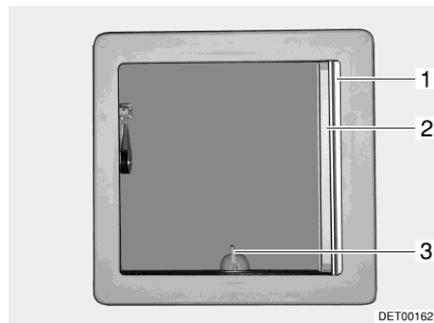
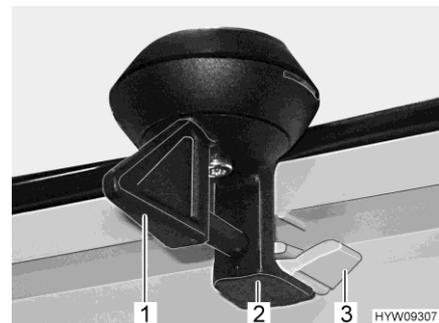

Fig. 69 Hinged skylight
Fig. 70 Lock (hinged skylight)
- Turn the lever (Fig. 69,3 or Fig. 70,1) one quarter turn.
- Turn the lever one quarter turn. The lock (Fig. 70,2) must slide into the bottom catch (Fig. 70,3).
Closing: ■ Pull out Roman shade (Fig. 69,1) and release in the required position. The Roman shade will stay in that position.
Closing: ■ Pull insect screen (Fig. 69,2) out until it engages with the latch on the opposite side.